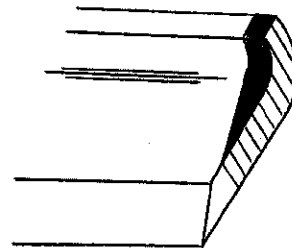

FIG. 11
B. Ordinarily the blade can be balanced by grinding just the cutting edge of the heavier end. However, if the blade is badly out of balance, the blade should be balanced by grinding in the area shown in FIG. 11.